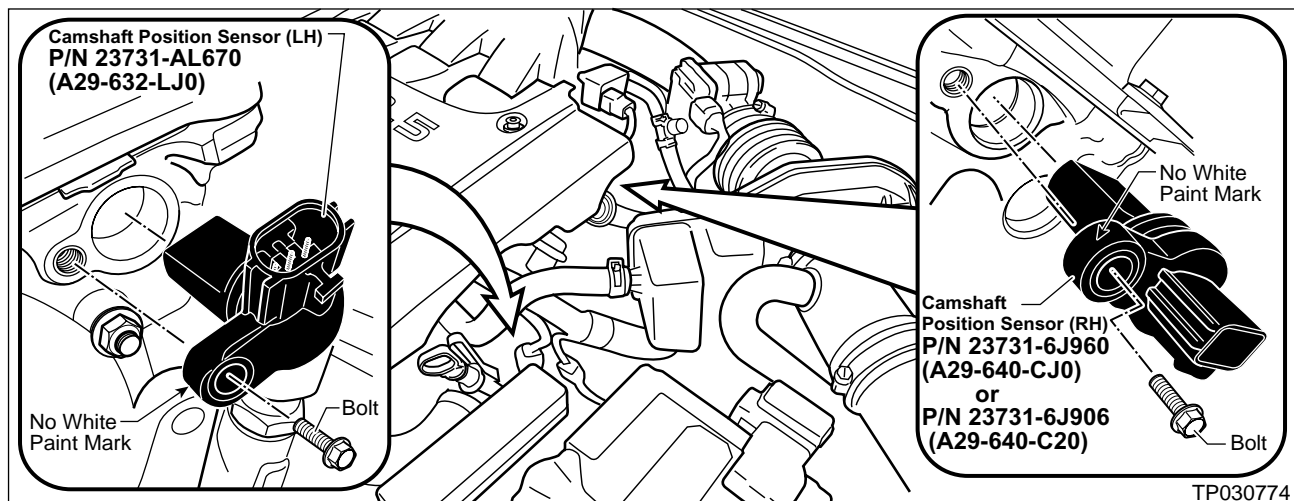

Figure 8
3. Locate the **Camshaft Position Sensors** (see Figure 8).